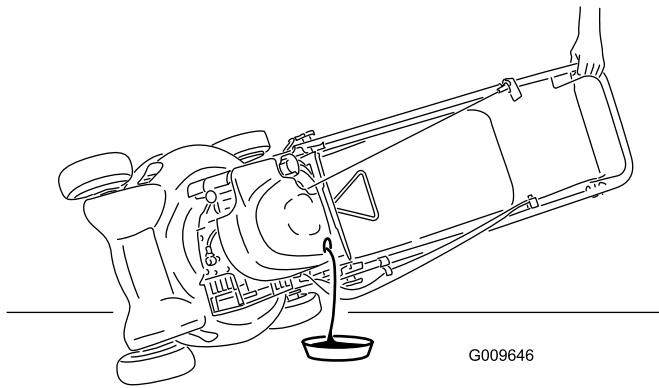

Figure 19
- Tip the mower onto its side, with the dipstick down, to drain the used oil out through the oil fill tube (Figure 19).